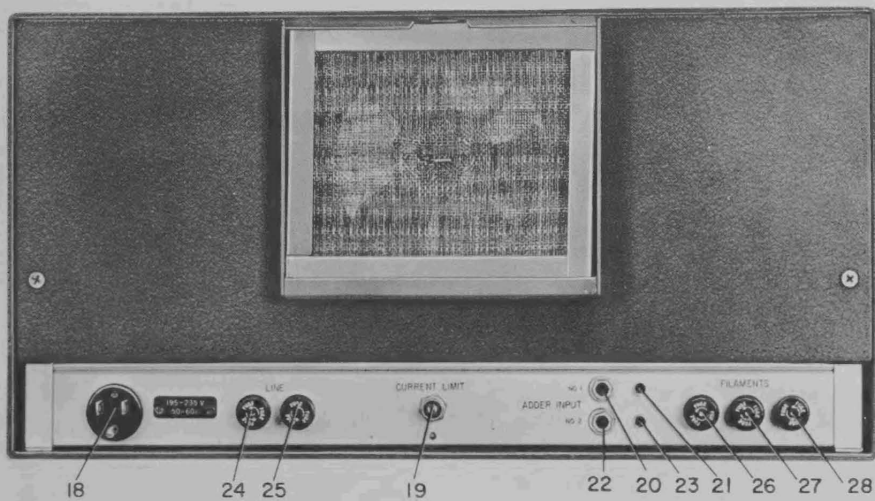

Figure 1-2. Rear view of the Type 1395-A Modular Pulse Generator. (For legend, refer to paragraph 1.3.)
**2.3.3.2 Adding Externally Produced Signals.** If a waveform that is not available from any plug-in module (such as a sine wave or noise) is desired as part of a finished signal, it can be injected into the adder busses from the rear panel (reference numbers 20 through 23 in Figure 1-2).
Figure 2-16 shows the sum of noise plus pulses. This waveform was used to test the ability of a level-sensing circuit to operate in the presence of noise. The noise source was a General Radio Type 1390-B Random-Noise Generator. The first two steps of an ascending staircase were generated by the subtractive method described in paragraph 2.2.4, and the noise signal was injected at ADDER INPUT NO. 2 on the rear panel (reference numbers 22 and 23 in Figure 1-2). In the middle waveform the noise was attenuated 20 dB; in the bottom waveform, 40 dB.